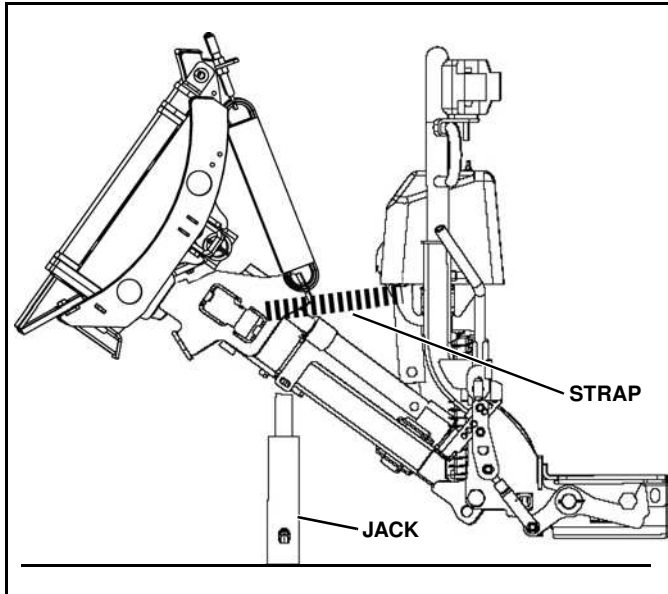

Figure 1-50
1. Set jack under plow. (See Figure 1-50).
2. Release strap and lower jack. (See Figure 1-50).